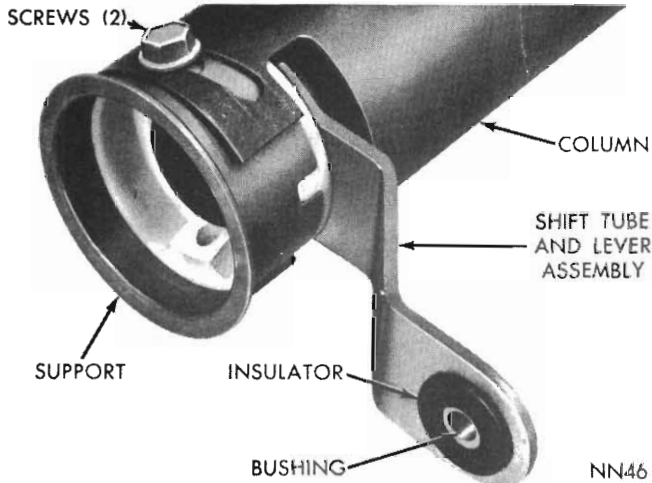
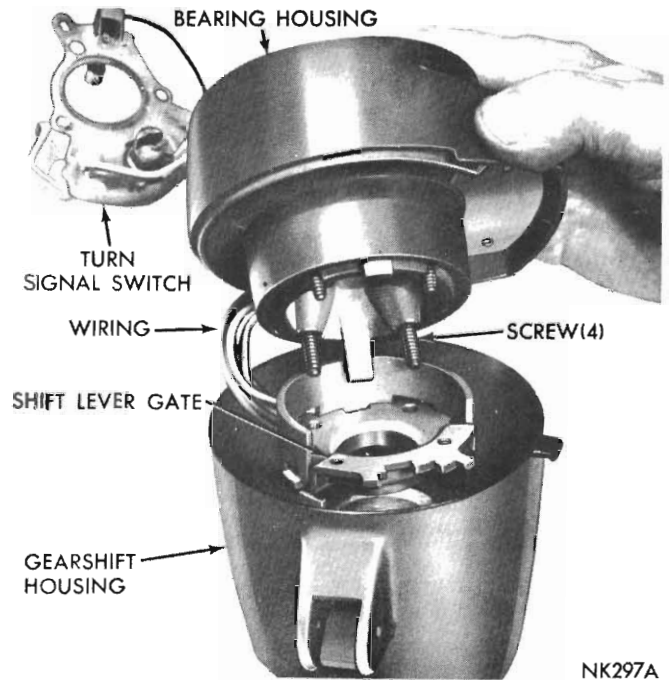

Fig. 11 - Steering column - lower end
Fig. 13 - Disassembling or assembling upper end of column
(2) Disengage column jacket lower seal from lip on jacket and slide it down toward coupling. Tap steering shaft downward through upper column bearing and remove shaft from the column.
(3) Remove two screws securing gearshift tube lever support in lower end of column (Fig. 11). Remove the support.
(5) Remove turn signal switch retainer from bearing housing and lift switch upward out of the way (Fig. 13). Remove four screws from inside bearing housing to separate it from shift lever gate. Slide gate out of column jacket. If necessary, tap column bearing out of the bearing housing.
(5) Raise bearing housing and slide shift lever gate into upper end of the column jacket (Fig. 13). Place the four retaining screws in the bearing housing (note screw lengths) (Fig. 13). Lower bearing housing and progressively thread screws into shift lever gate, then tighten screws securely.
(6) Slide spacer and felt washer on the gearshift tube. Insert gearshift tube into the column. Align upper end of tube with gearshift housing and push tube firmly into the housing.
(7) Install gearshift tube lever support in lower end of column and start the two retaining screws (Fig. 11). Rotate support just enough to eliminate shift tube end play, then tighten screws to 30 lbs./in.